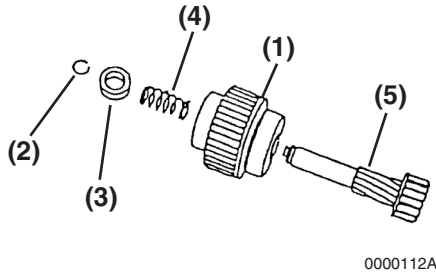

Figure 11-27
1. Apply NPC-FC6A grease to the pinion shaft. Reassemble the pinion shaft (Figure 11-27, (5)), pinion clutch assembly (Figure 11-27, (1)), return spring (Figure 11-27, (4)) and pinion stop (Figure 11-27, (3)). Reinstall the retaining ring (Figure 11-27, (2)) in the groove in the pinion shaft. Slide the piston stop over the retaining ring.